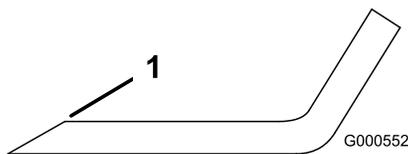

Figure 67
1. Use a file to sharpen the cutting edge at both ends of the blade (Figure 67).
**Note:** If the blade is not balanced, file some metal off the end of the sail area only (Figure 67).